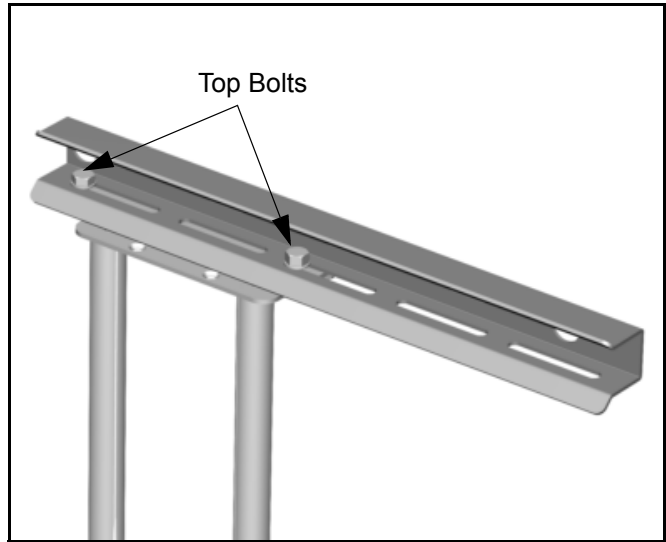

Figure 12: Adjust- Left of Center
2. Remove four bolts (two on the top and two on the bottom) securing the swing arm assembly to the top and bottom mounting brackets (See figure 12).
5. Install four bolts (two on the top and two on the bottom) to secure the swing arm assembly to the top and bottom mounting brackets (See figure 12).